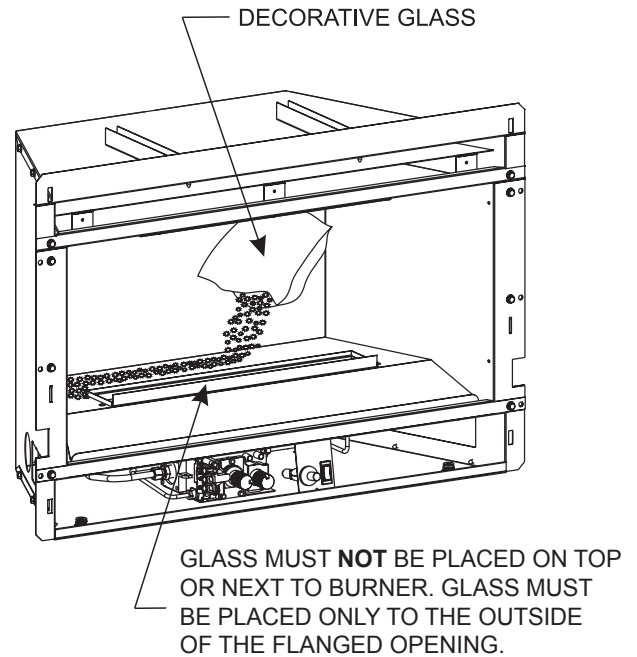
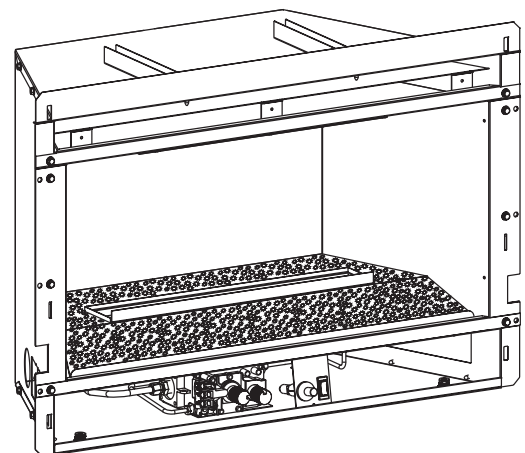

Figure 21
Figure 23
3. To install the Decorative Glass, cut off a corner of the plastic bag and proceed to apply the glass to the rear shelf on the Loft burner (area behind the burner). Apply only enough glass to cover the black metal surfaces. Do not allow the glass to fall around the burner tube. **See Figures 21 and 22.** Apply the remaining decorative glass to the front sloped surface of the Top Cover. Start by placing the glass along the front edge of the top cover, then gradually place the glass up the sloped top until completely covered. Do not allow the glass to fall around the burner tube. **See Figure 23.**